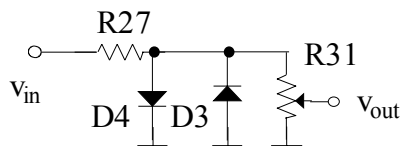

Figure 3.35 Diode clipper
5. Now we have amplified and filtered the signal. Intelligibility is of prime importance in speech communication systems. Information content in speech is contained mainly in the frequency variation of the voice, where as emotional content is in amplitude variation. The voice signals are *clipped* in speech communication systems, in contrast to HiFi (*High Fidelity*, i.e. high quality music reproduction) systems. Clipping limits the amplitude of the signal and therefore severely distorts the voice signal, but all zero crossings of the signal, hence its frequency variation, is well preserved. A circuit comprising a series resistor and two diodes shown in Figure 3.35 clips the waveform.